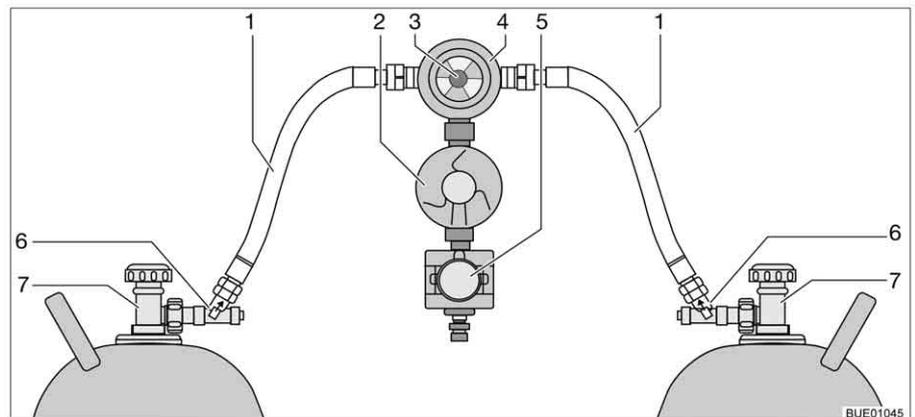

Fig. 145 Crash protection unit switching facility
The crash protection unit consists of two flow restrictors with manual release button (Fig. 145,6) a reversing valve (Fig. 145,4) with pressure regulator (Fig. 145,2), an electrovalve (Fig. 145,5) and the operating unit with tricoloured LED. The reversing valve is installed between the two gas tubes (Fig. 145,1).
Use the knob (Fig. 145,3) on the reversing valve to select which of the gas bottles is to be used as a primary bottle and which is to be used as a reserve bottle.
Only the electrical functions can be switched at the operating unit (Fig. 146). The regulator taps on the gas bottles (Fig. 145,7) and the release buttons (Fig. 145,6) must be opened manually.
- Open the regulator taps of the gas bottles (Fig. 145,7).
- Press the release buttons (Fig. 145,6) successively for 10 seconds.
- Use the knob (Fig. 145,3) on the reversing valve (Fig. 145,4) to select the gas bottle which is to be the primary source of gas (primary bottle). Always turn the knob as far as it will go.
- Close the regulator taps of the gas bottles (Fig. 145,7).